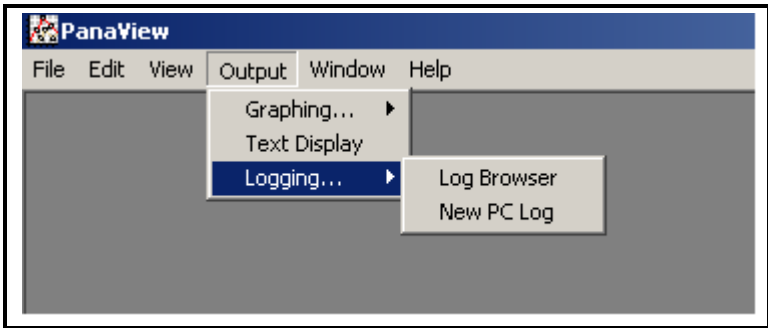

Figure 6-20: Selections in the Logging Option
1. Open the “*Output*” menu (see Figure 6-1 on page 6-2), and click on the “*Logging*” option. The window shown in Figure 6-20 below opens.